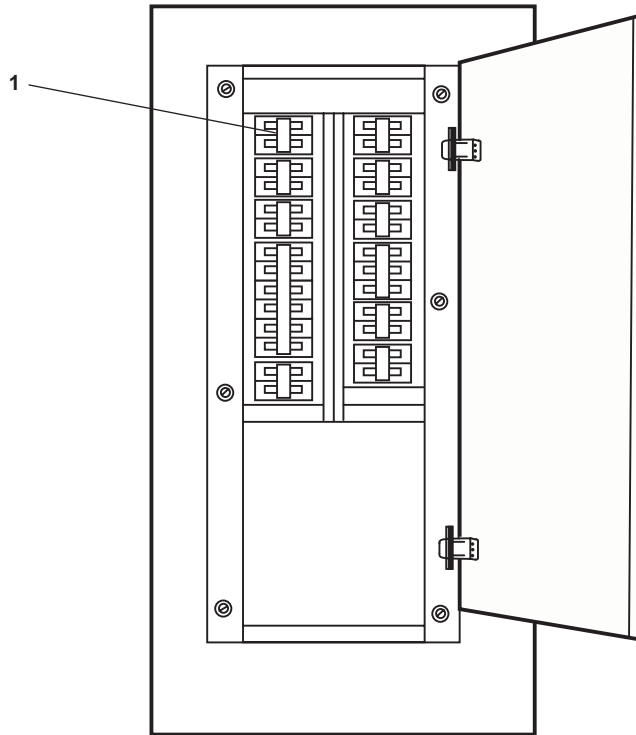

Figure 6. 120V Distribution Panel No. 3
7. At the 120V distribution panel No. 3, set the MAIN DECK DRINKING FOUNTAIN. circuit breaker (figure 6, item 1) to OFF.